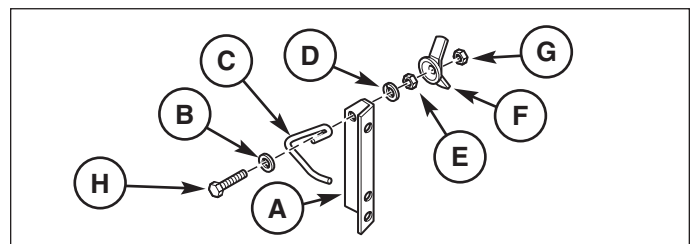
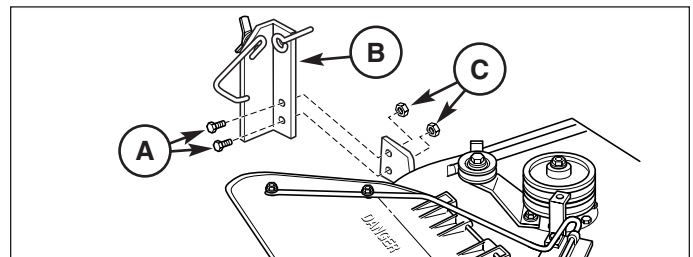

Figure 11. Anchor Bracket Assembly
Figure 12. Anchor Bracket Installation
1. See Figure 12. If not already done, assemble the anchor bracket and related components as shown in Figure 11.
2. Attach the anchor bracket assembly (B, Figure 12) to the mower deck using 5/16-18 x 1 capscrews (A) and 5/16-18 locknuts (C).